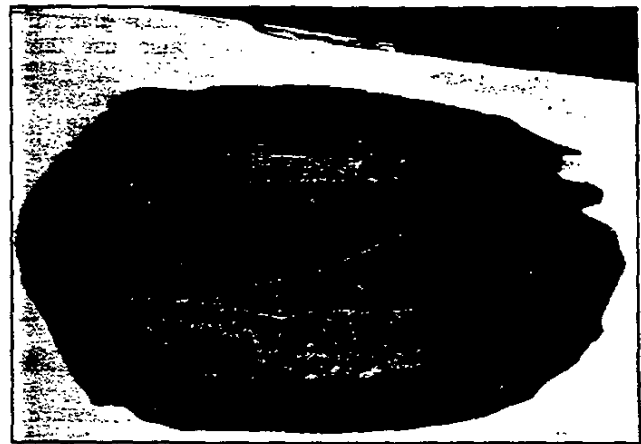

Fig. 56—Repair Area Finish Sanded
2. Featheredge the repair area with No. 220 wet or dry sandpaper and finish block sand with No. 320 wet or dry paper, Figure 56.